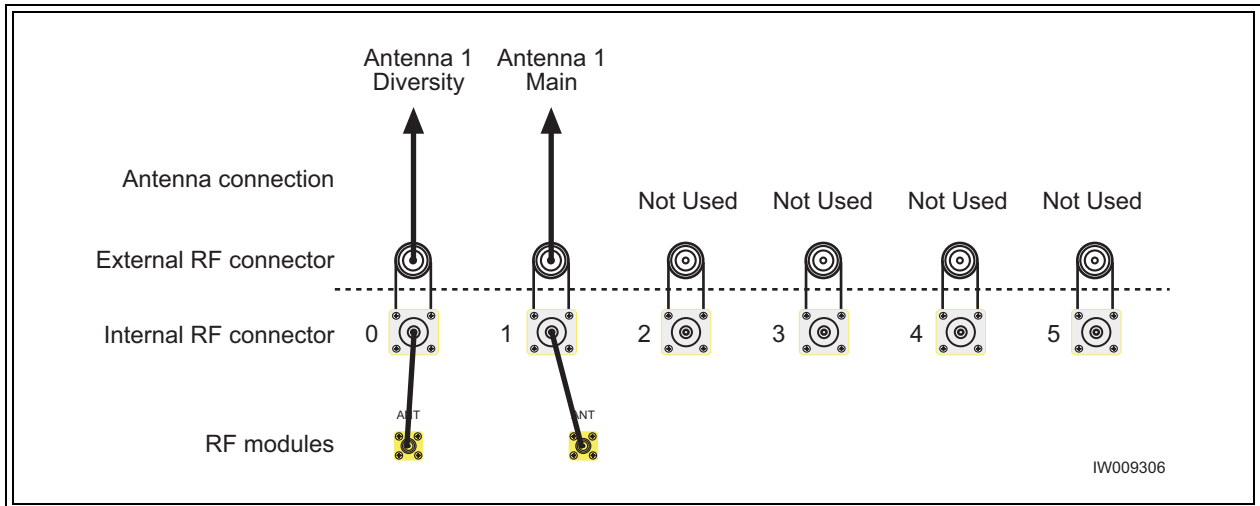

Figure 2-17 Antenna Cabling for O4 Configuration
- Connect your antennas as shown in Figure 2-17.